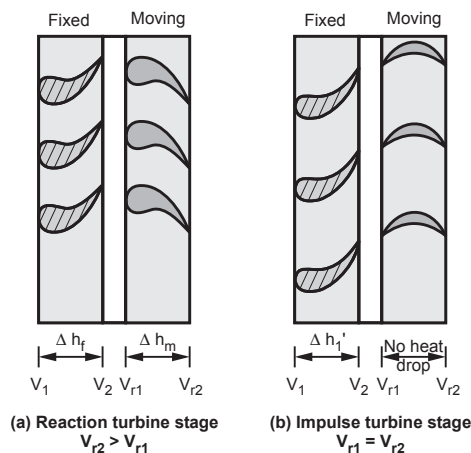

Fig. 3.32
- Due to expansion of steam over the moving blades, the relative velocity at exit of moving blade ( $V_{r2}$ ) is greater than the relative velocity of steam at inlet to the moving blades ( $V_{r1}$ ). Refer Fig. 3.32.